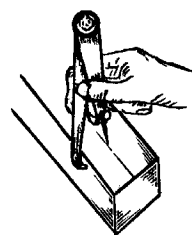

FIG. 14 SCRIBING A LINE
- Grasp the top of the caliper with the thumb and forefinger of the right hand. Place the curved tip of the caliper against the surface from which the line is being located, keeping the tip of the caliper leg square with the surface from which it is guided and in contact with the surface. Scribe the line by exerting a slight pressure on the scriber and drawing the caliper along the surface being scribed. (Fig. 14).